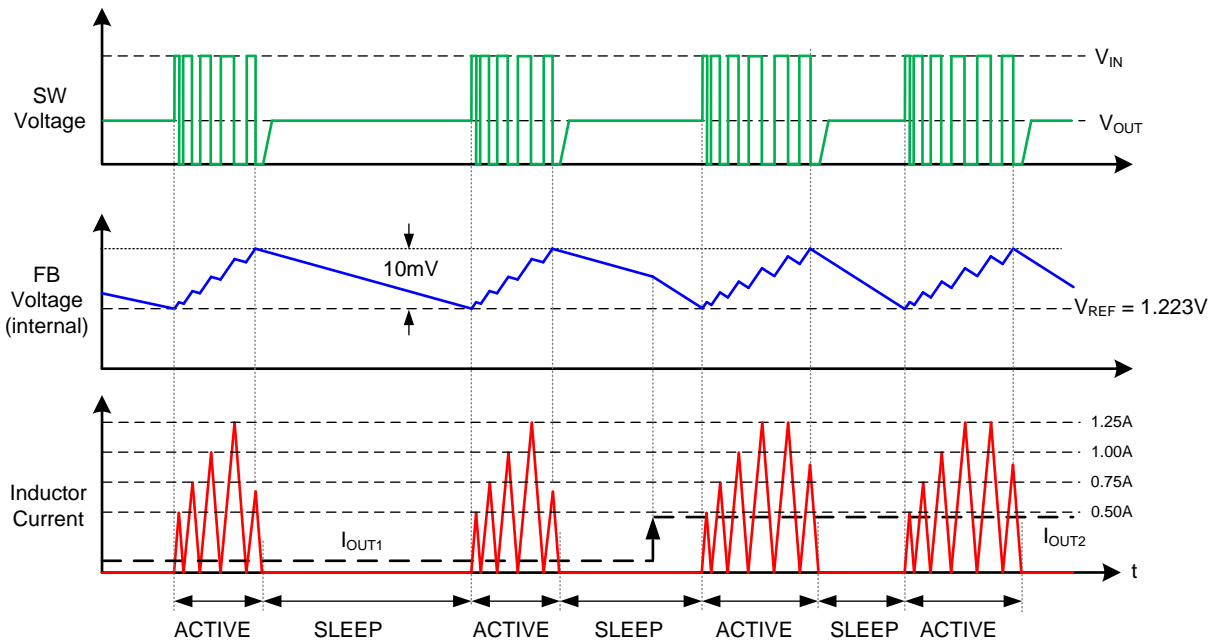

Figure 42. PFM Mode With Modulated  $I_{LIM}$ , Output Voltage and Inductor Current Representative Waveforms
One of the supported ILIM settings enables a function that modulates the peak current threshold levels during the first three switching cycles of each active period as illustrated in Figure 42. This function improves efficiency under most application conditions at the expense of slightly degraded load transient response.
- (1) For this current limit threshold selection, the ILIM pin may also be left open instead of using a 100-k $\Omega$  or greater resistor.
- (2) This  $I_{LIM}$  setting enables a function that modulates the  $I_{LIM}$  levels during the first three switching cycles as illustrated in Figure 42.